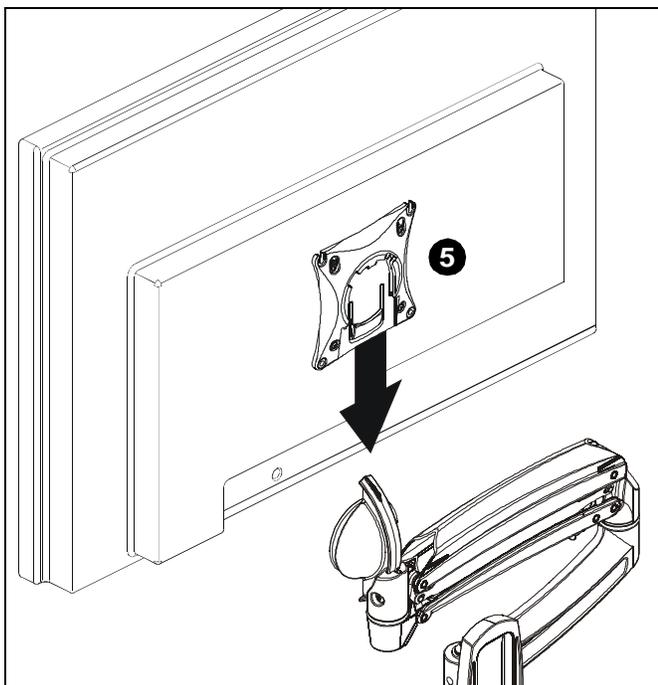

Figure 5
4. Position display with faceplate attached above mount. (See Figure 5)
5. Slide faceplate onto mounting head until release tab clicks into place. (See Figure 5)